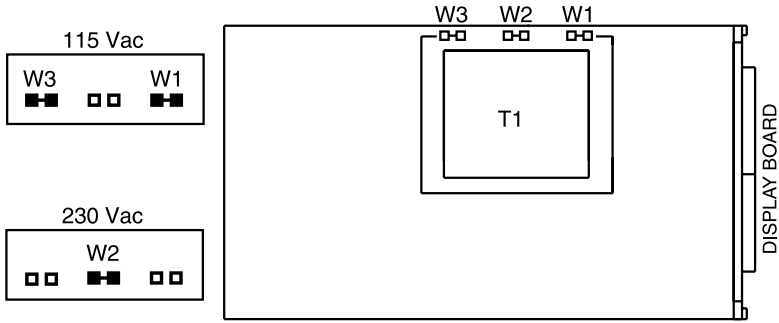

Figure 6-1. Main Board Power Jumpers (W1, W2, W3)
6.4 MAIN BOARD POWER JUMPERS (refer to Figures 6-1 and 6-2)
Figure 6-1 shows the W1 through W3 jumpers on the main board.